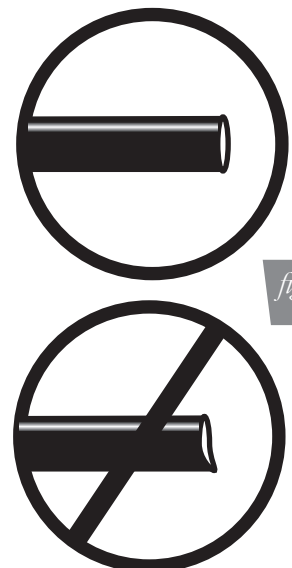

fig. 29
- a. Check the air line connection by deflating the spring and removing the line by pulling the collar against the fitting and pulling firmly on the air line. Trim 1" off the end of the air line. Be sure the cut is clean and square (see fig. 29). Reinsert the air line into the push-to-connect fitting.
2. If the preceding steps have not resolved the problem, call Air Lift customer service at (800) 248-0892.